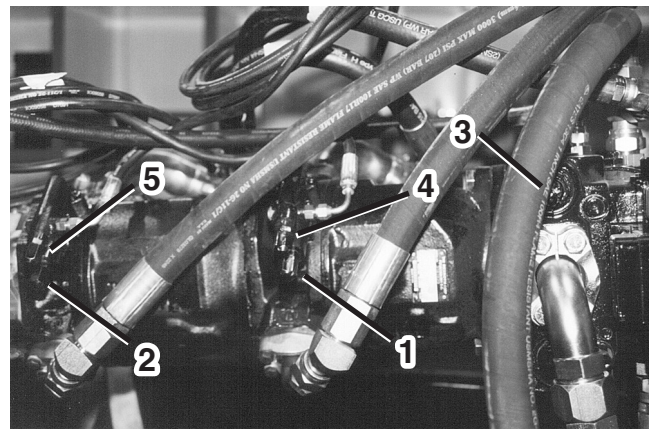

Figure 22. Pumps
3) To make an adjustment, use a 17mm wrench to remove protective cap from set screw located to the rear of each pump on the curbside of the chipspreader. The standby pressure adjustment is the higher of the two adjustments at the rear of the pump (**Figure 22 Ref 4**).
7) To make an adjustment, use a 17mm wrench to remove protective cap from relief set screw located to the rear and curbside of the pump. Of the two adjustments at this location, the high pressure relief is the lower one of the two (**Figure 22 Ref 1**).
3) To make an adjustment, use a 17mm wrench to remove protective cap from set screw located to the rear of the pump on the curbside of the chipspreader. The standby pressure adjustment is the higher of the two adjustments at the rear of the pump (**Figure 22, Ref 4**)
7) To make an adjustment, use a 17mm wrench to remove protective cap from relief set screw located to the rear and curbside of the pump. Of the two adjustments at this location, the high pressure relief is the lower one of the two (**Figure 22, Ref 1**).